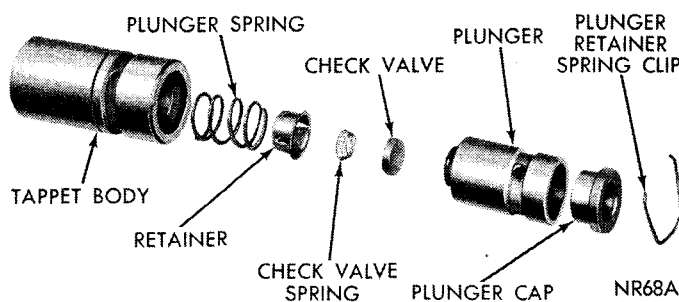

Fig. 18—Hydraulic Tappet (Disassembled View)
Disassembly (Fig. 18)
- (1) Clean all tappet parts in a solvent that will remove all varnish and carbon.
- (2) Replace tappets that are unfit for further service with new assemblies.
- (3) If plunger shows signs of scoring or wear and valve is pitted, or if valve seat on end of plunger indicates any condition that would prevent valve from seating, install a new tappet assembly.
- (4) Assemble tappets (Fig. 18).